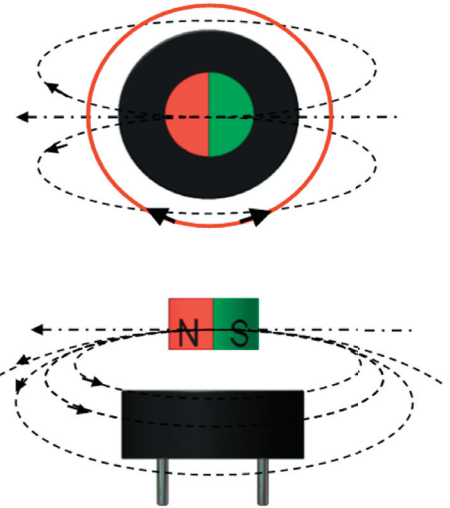

Fig. 5 Disc Magnet
**Magnet Targets** - The GMW360ASM can work with many different magnet shapes and sizes as shown in Figures 5 thru 8. The module senses field vectors that are parallel with the top surface of the module. The direction of the field vector is converted to angle output as an analog voltage or PWM (Pulse Width Modulated) signal. The distance between the magnet and the surface of the module is referred to as the “Air Gap” and this distance is dependant on the size and strength of the magnet. The maximum strength of the horizontal field should not exceed 45 mT (450 Gauss) at the surface of the module. For example a GMW P/N 55B0082, SmCo 24 magnet, 6 mm in dia and 4 mm thick shown in Fig. 5 will have a minimum air gap of approximately 2.5 mm and a maximum air gap of approximately 5 mm.